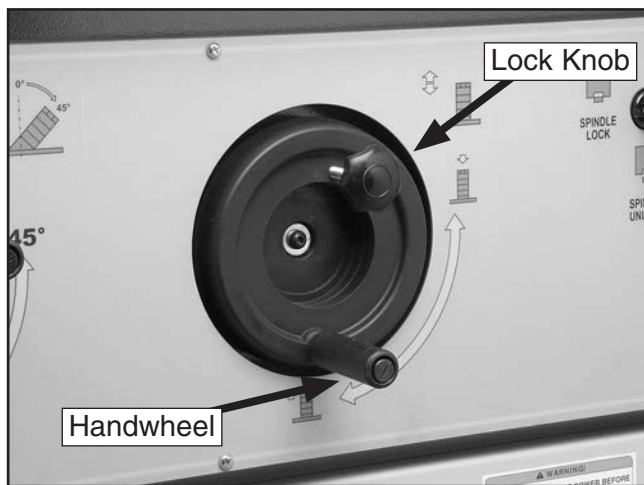

Figure 18. Spindle elevation handwheel and lock knob.
2. Loosen the spindle elevation lock knob and rotate spindle elevation handwheel clockwise to bring the cutter to the desired elevation (see **Figure 18**).